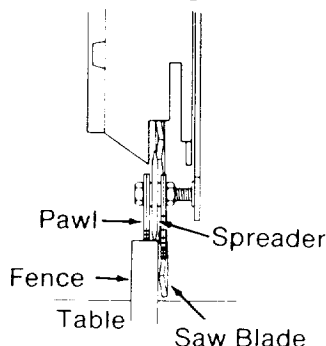

Fig. 81 - A,B,C
12. If the *spreader* and *blade* both rest against the *fence*, no adjustment is needed. (Figure 81-A) Go to step 17, or
If the *spreader* is in front of the *fence* but not touching it (Figure 81-B), go to step 13, or
If the *spreader* hits the top of the *fence* (Figure 81-C), go to step 13.